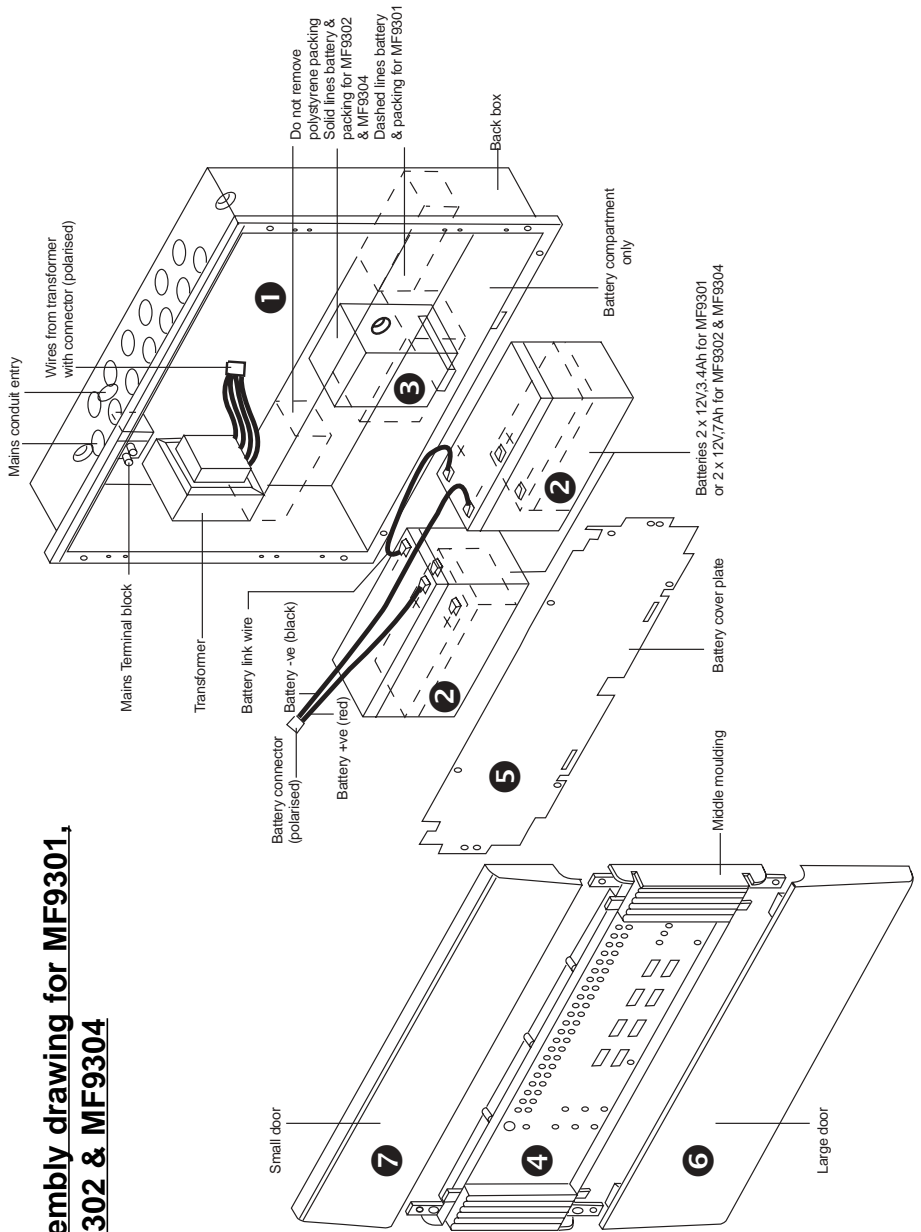

FIG 1
Follow the steps shown here in conjunction with the assembly diagram shown on the following page of this manual (Fig.1):
Take the moulded back box and remove/drill any knockouts that are to be used, either on the top or rear of the enclosure. **Note that specific knockout positions should be used for the AC mains supply.** These positions are indicated both on the back box itself and on the assembly diagram (Fig.1). **Note also that cables should only enter or leave the enclosure via positions indicated by the knockouts.** Do not drill additional holes in the enclosure.
2. Connect the batteries together using the battery connectors contained in the accessories bag - note the polarity of the connections on the assembly diagram (Fig.1). Fit the batteries into the battery compartment of the rear enclosure.
3. Using the packing piece(s) provided ensure that the batteries cannot move within the battery compartment. For the MF9301 panel 3 packing pieces are used - their positions and orientations are shown in Fig.1. For the MF9302 and MF9304 panels only a single packing piece is used - again, see Fig.1 for details.